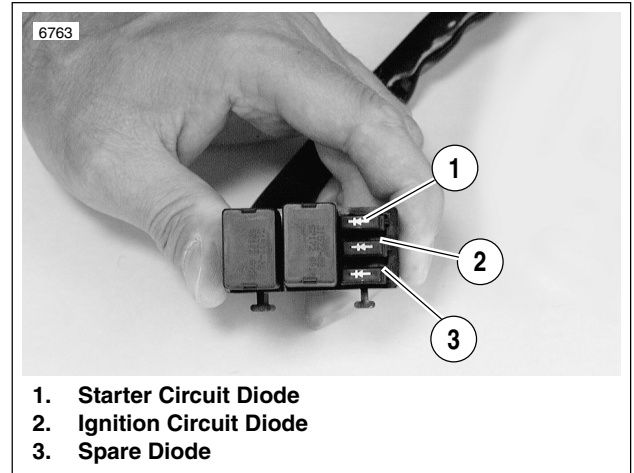

Figure 7-34. Diodes
3. See Figure 7-34. Both user replaceable diodes (1, 2) are mounted on the relay block under the tail section. One spare diode (3) is attached to the relay block.
1. See Figure 7-34. Install the new diodes into position on the relay block.